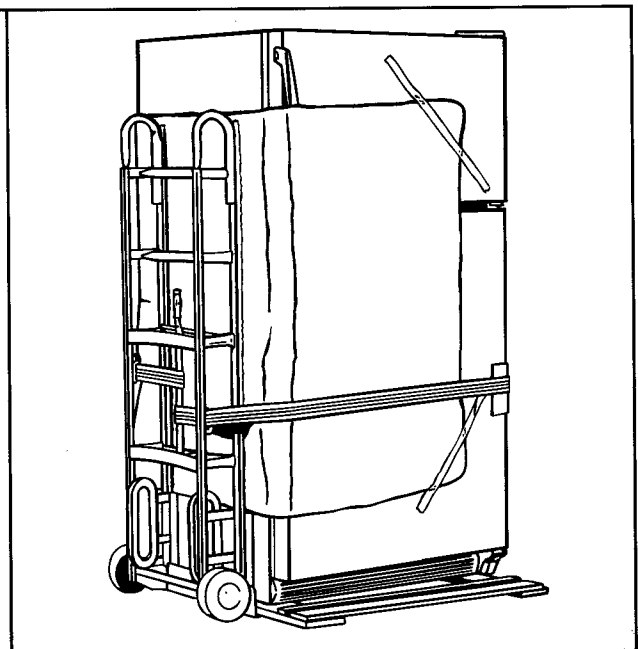

Figure 2
4. Thread strap from cart around refrigerator. See Figure 2.